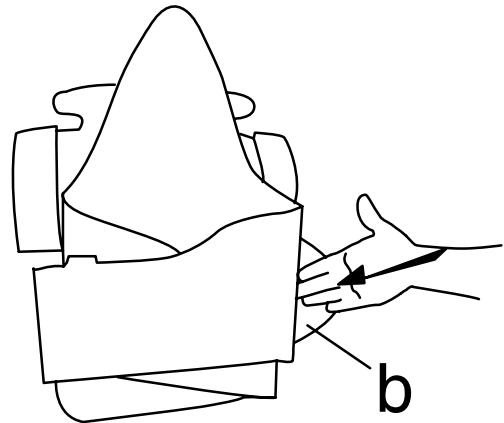

FIG. 10
7. With the waistbelt facing you, use your right hand to separate the exposed Velcro® between the end of the flap and the back of the belt (Figure 10).